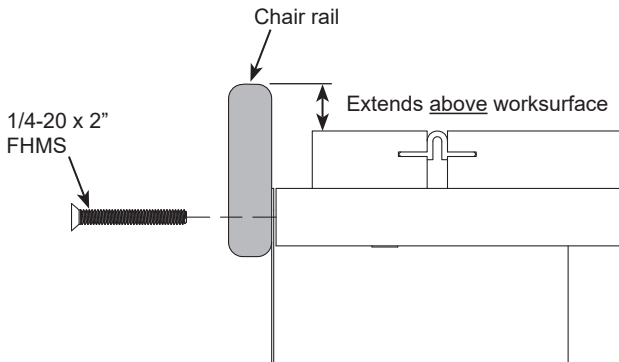

Figure 3.1
2. Attach the chair rail with (2) 1/4-20 x 2" FHM screws as shown. Note the chair rail should extend above the worksurface, and the countersunk holes should be on the outside. **Figure 3.1, 3.2.**